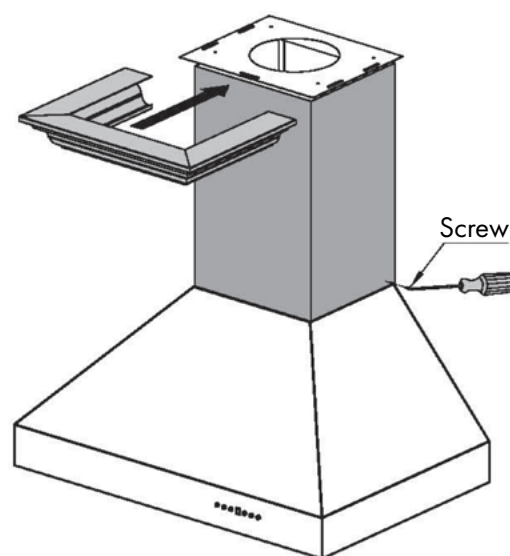

Figure 8
10. Install the chimney on top of the hood, making sure the top slides into the crown molding bracket. Slide the crown molding onto the bracket and secure into place; secure the lower chimney portion to the hood. *Figure 8*